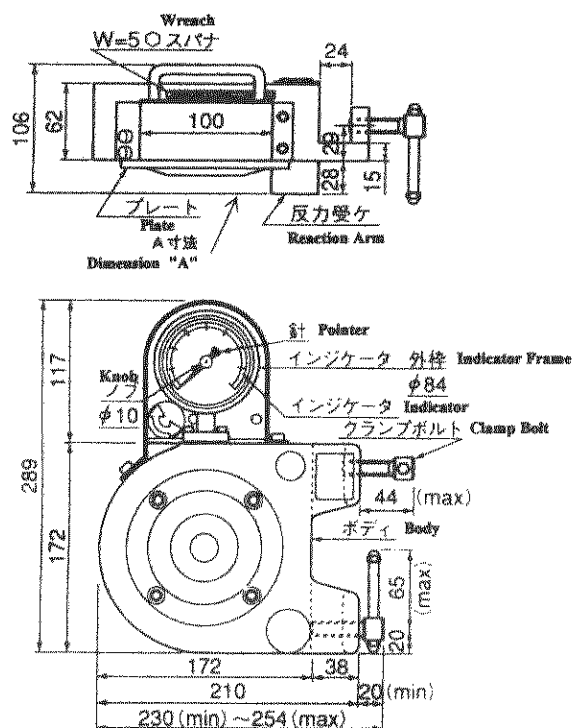
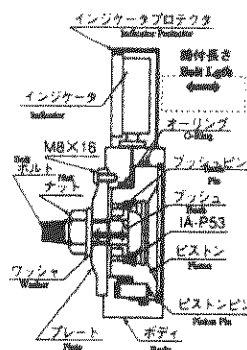
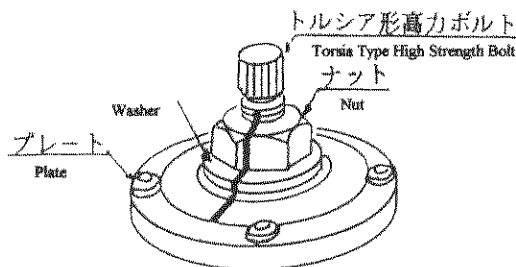

Fig. 3
Fig. 4
Fig.5マーキング
● The loading capacity (max. torque) of the reaction force receiver is $T_{max}=1200N.m$. Do not tighten or loosen the bolts exceeding maximum torque. Furthermore, observe proper application example provided in Fig. 3 for the location of the reaction force receiver and the reaction arm of the Nutrunner. If the improper application example shown in Fig. 4 is attempted, the reaction force receiver or reaction arm may be damaged.
参考までにTable4に反力受け先端からプレートの底金接触部までの距離 (Fig. 3のA寸法)を示します。
インジケータのゼロ調整は、Fig. 3を参考に以下の手順で行って下さい。
The load capacity (max. torque) of the reaction force receiver is $T_{max}=120 \text{ kf.m}$. Usually tightening and loosening work of M24 and class F10T are performed by using a power tool with reaction arm. Reference, Table 4 for the distance from the top end of the reaction force receiver to the washer contact portion of the plate (dimension A in Fig. 3).
Carry out zero adjustment of the pointer by following this procedure and referring to Fig. 3.
①Fig. 4概略構造図のように、ボルト頭部をブッシュ側にして試験するボルトをセットします。
②座金の内側面取りのある方を表にして、座金を取り付けます。
③ナットをセットします。
④トルクレンチ等を使用して1次締付けを行います。
⑤Fig. 5に示すように、ボルト・ナット・座金・プレートにマーキングします。
① Set the test bolt by placing the head on the bush side as shown in Fig. 4.
② Mount the washer so that its chamfered inner side is set outward.
③ Set the nut.
④ Perform primary tightening by using a torque wrench based upon Table 6.
⑤ Mark on the test bolt, nut, washer and plate as shown in Fig. 5.